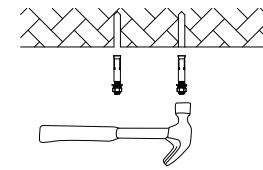

Figure 4
2. Use a hammer to secure the screw into the hole (refer to Figure 4).